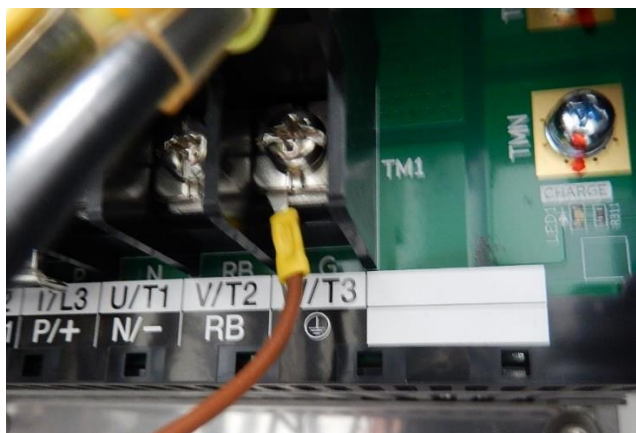

Figure 11: Analog Shield Connection Location
6.4.5 **Connect** analog input shield conductor to G (\perp) terminal (Bottom Row). See *Figure 11* below for grounding location.